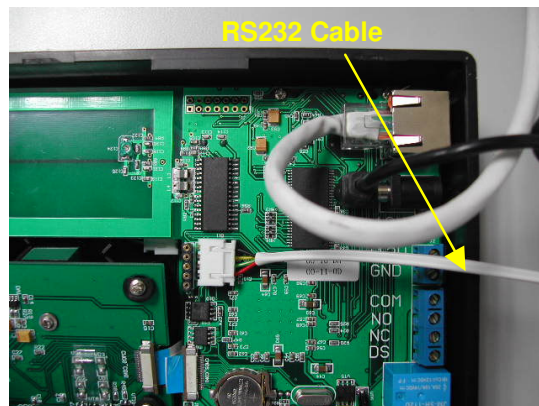
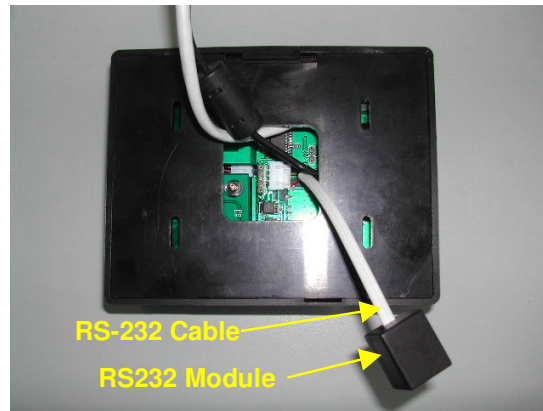

Figure 1 : Connection of RS232 Cable to FS21M
Figure 2 : RS232 Cable connected to the FS21M
- Connect the RS232 interface module to FS21. Please see Fig.1 and Fig. 2.